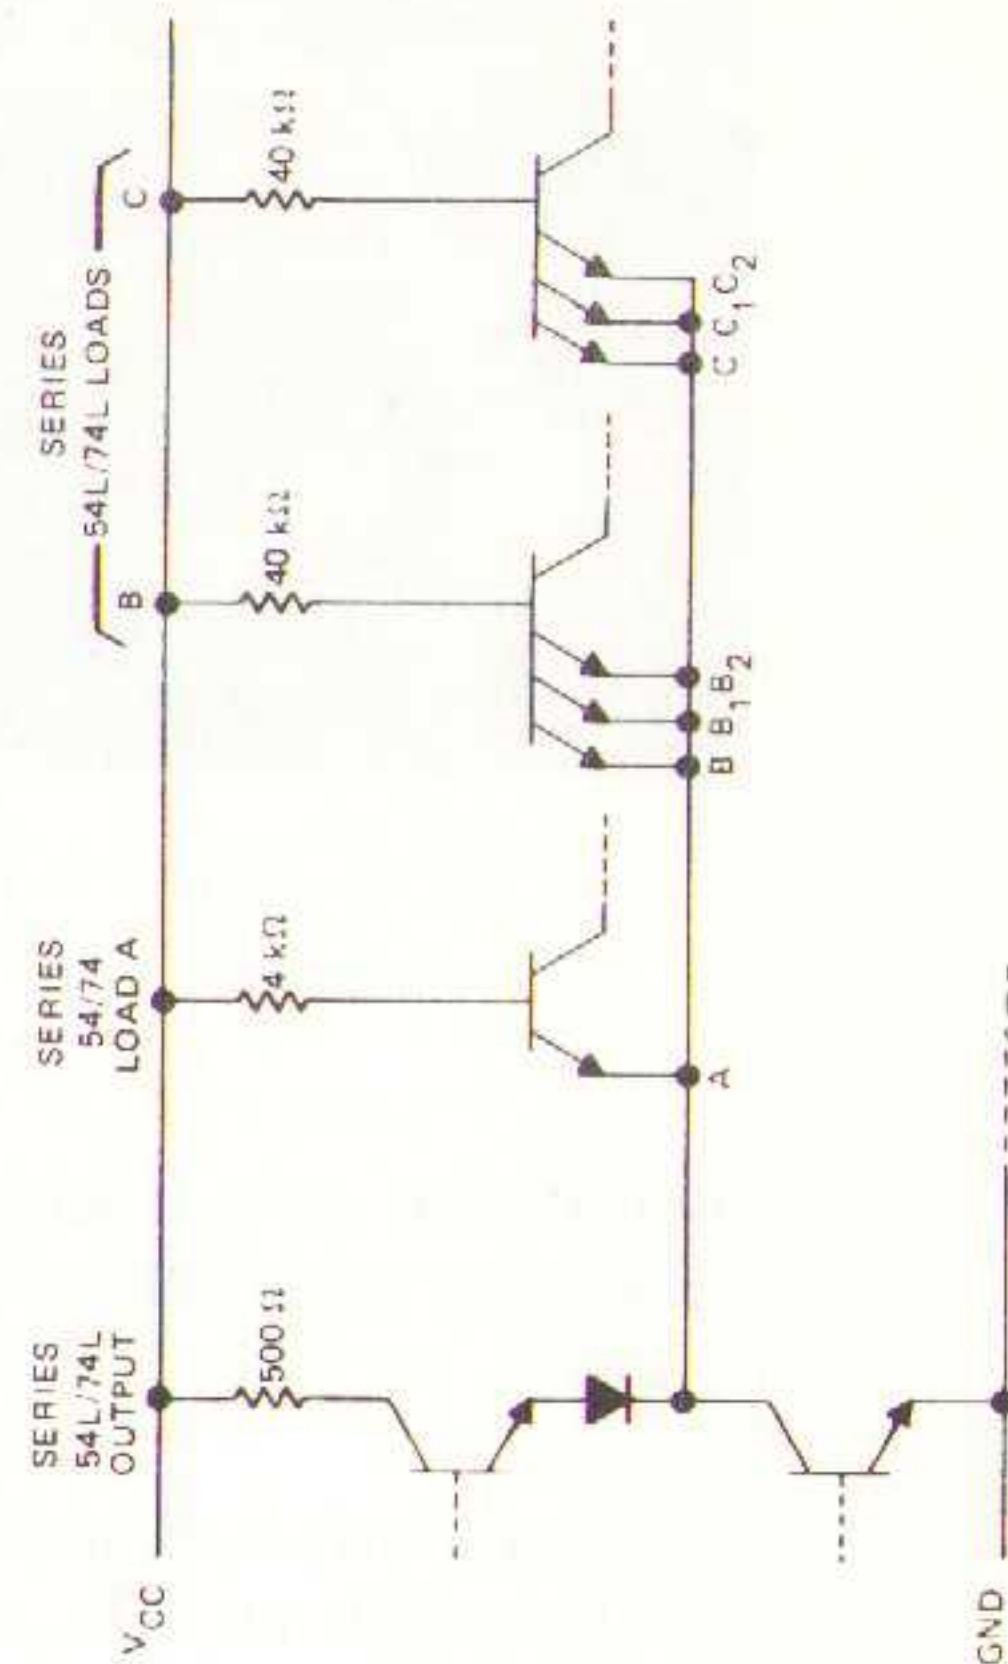

FIGURE 3
The most efficient calculations for maximum fan-out when mixing standard, high-speed, and low-power TTL circuits are achieved by using the actual current values. As an example, consider a Series 54L/74L gate (see Figure 3) driving one Series 54/74 load (A), two Series 54L/74L loads (B and C), and four unused emitters (B₁, B₂, C₁, and C₂, two on each of the 54L/74L input transistors, B and C). The calculations are shown in Table III.